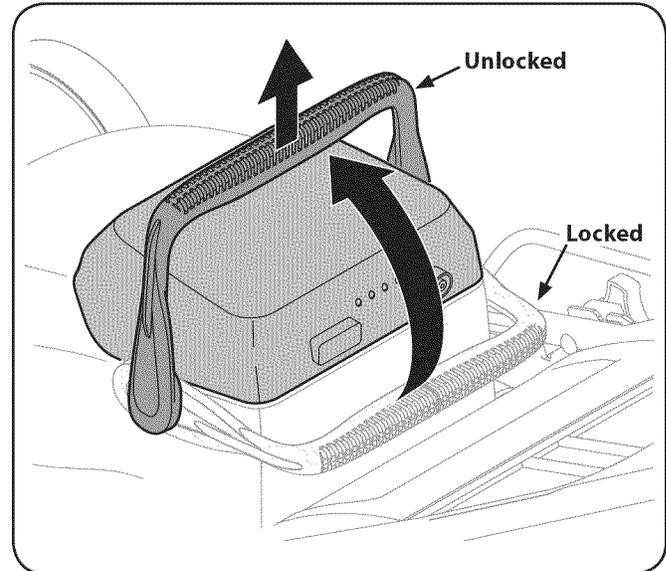

Figure 5-3
2. Move the locking handle from the locked position to the unlocked position. See Fig. 5-3.
3. Lift the battery off the mower base. See Fig. 5-3.